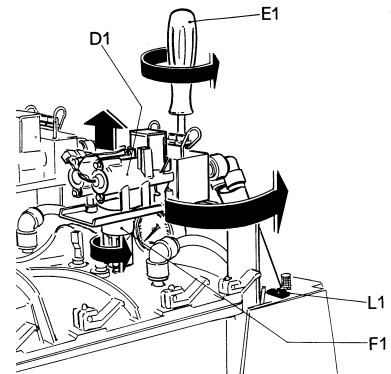

FIGURE 6
- Switch the machine's main switch to the ON position (1).
- Make sure the switch (L1) is in the OFF position (0) - FIGURE 6 - (switch L1 controls the flow of the products in the bowls).